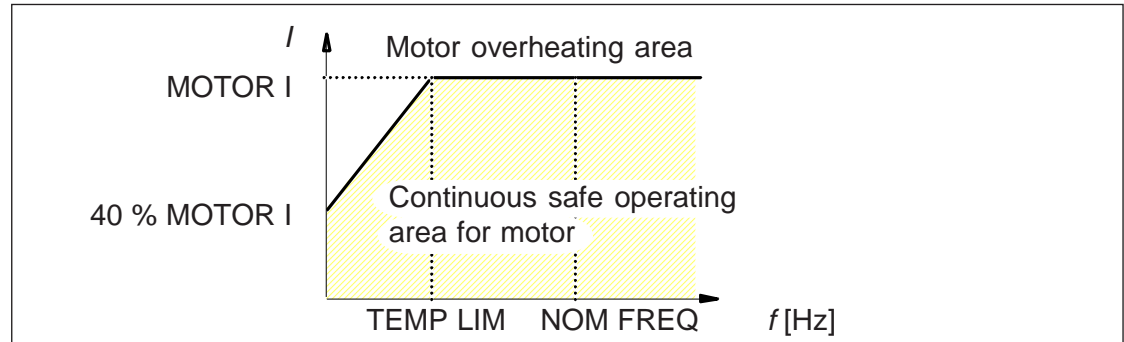

Figure 7-7. Motor thermal protection.
**TEMP LIM** The ACS 200 motor thermal protection (sometimes called  $I^2t$  or solid state overload protection) is activated using the TEMP LIM parameter. When set to OFF, the motor overload protection is deactivated. The TEMP LIM and MOTOR I parameters define the continuous safe operating area for the motor, as illustrated in figure 7-7.
Nominal motor current at full load as indicated on the motor rating plate. See U/f RATIO, TEMP LIM and figure 7-7 above. This parameter does not need to be set if TEMP LIM is set to OFF and OPTIM U/f RATIO is not used. MOTOR I does not